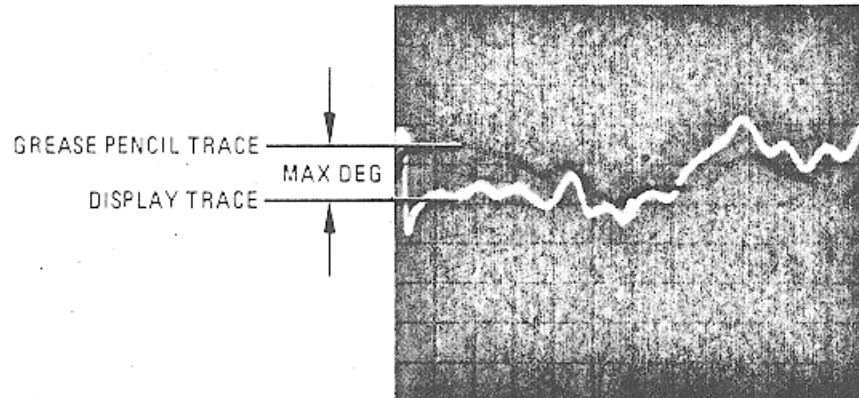

Figure 11. Reflection Frequency Response Phase
- (5) On 8505A Signal Processor Channel 2 press the REF OFFSET pushbuttons to center the display around the grease pencil phase trace.
- (6) Measure the maximum difference between the grease pencil trace and the display trace (Figure 11). This measured value should be $6 < 15^\circ$ for the entire 0.5 to 1300 MHz frequency range.
- (1) Repeat steps h (1) through h (5).
- (2) Measure the maximum difference between the grease pencil trace and the display trace (Figure 11). This measured value should be $\leq 10^\circ$ for the 2 to 1300 MHz frequency range.
- (3) Remove grease pencil trace from CRT.